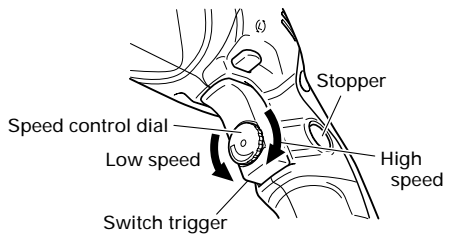

Fig. 11
- The desired rotation speed can be pre-selected with the speed control dial. Turn the speed control dial clockwise for higher speed and counterclockwise for lower speed. (Fig. 11)